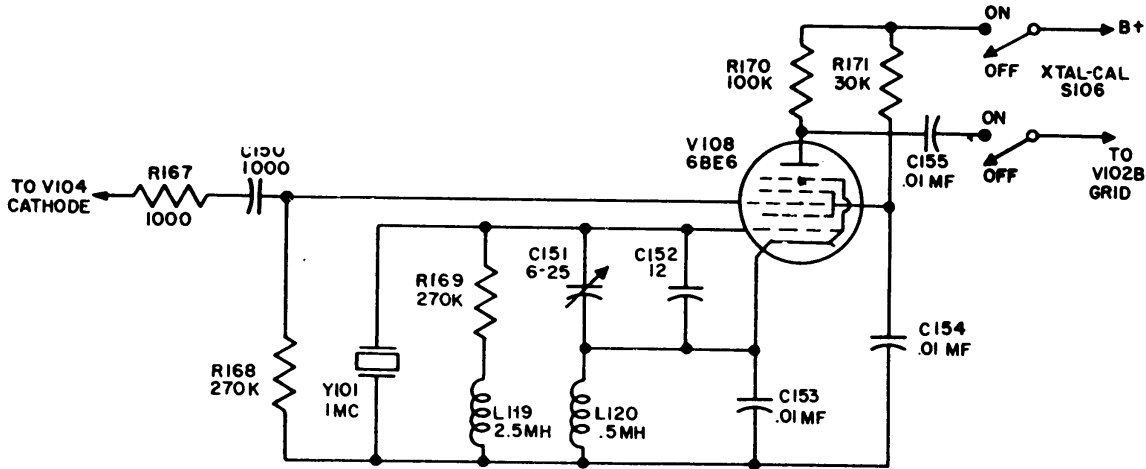

Figure 2-9. Schematic Diagram of Crystal Calibrator
See figure 2-9).
b. CIRCUIT ANALYSIS--(see figure 2-9). The crystal calibrator consists of a 1 mc crystal (Y-101) and an oscillator-mixer circuit utilizing a type 6BE6 pentagrid converter (V-108). A portion of the RF signal is fed from the cathode of buffer-amplifier V-1C4 to the mixer grid of V-108 via isolation resistor R-167 and coupling capacitor C-150. Although the cathode of V-104 is bypassed for RF, sufficient RF energy is available to operate the crystal calibrator. The oscillator section of V-108 is analogous to a Colpitts oscillator with 1 mc crystal Y-101 serving as the tuned circuit and the screen grid acting as the plate. Grid resistor R-169 is the grid leak DC return for the oscillator grid. Trimmer C-151 is provided for adjusting the 1 mc frequency of the oscillator against a primary standard. RF chokes L-119 and L-120 serve to increase the harmonic generation of the crystal oscillator and thereby extend the useful range of the calibrator to 50 mc. When XTAL-CAL switch S-106 is in the ON position, B+ is fed to the plate via plate load R-170 and to the screen via load resistor R-171. When calibrating, the output of V-108 will be the audio beat difference between the signal generator frequency and the crystal harmonic frequency. This audio beat is fed to the grid of V-102B via switch S-106. V-102B amplifies this beat and the resultant signal is fed to the EXT MOD IN jack J-103 when MOD SELECTOR switch S-103 is in the XTAL (EXT) position. Connector, Adapter UG-684/U is provided to adapt BNC type jack J-103 to a standard phone jack when monitoring for zero beat. Crystal earphones should be used when calibrating since the impedance at J-103 is high.